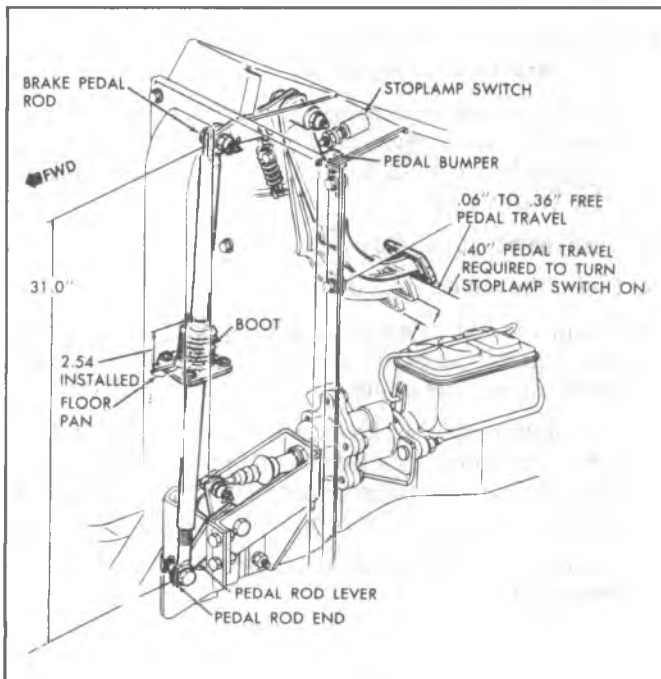

Fig. 5-13--Brake Pedal and Stop Lamp Adjustment
#### Replacement (Fig. 5-13)
11. Fasten the boot to the floorpan and compress the boot to 2.54" (65 mm) installed height; tighten the boot to 2.54" (65 mm) installed height; tighten the boot screws to 13-18 lb. in. (1.5 - 2.0 N·m). (Refer to Figure 5-13).